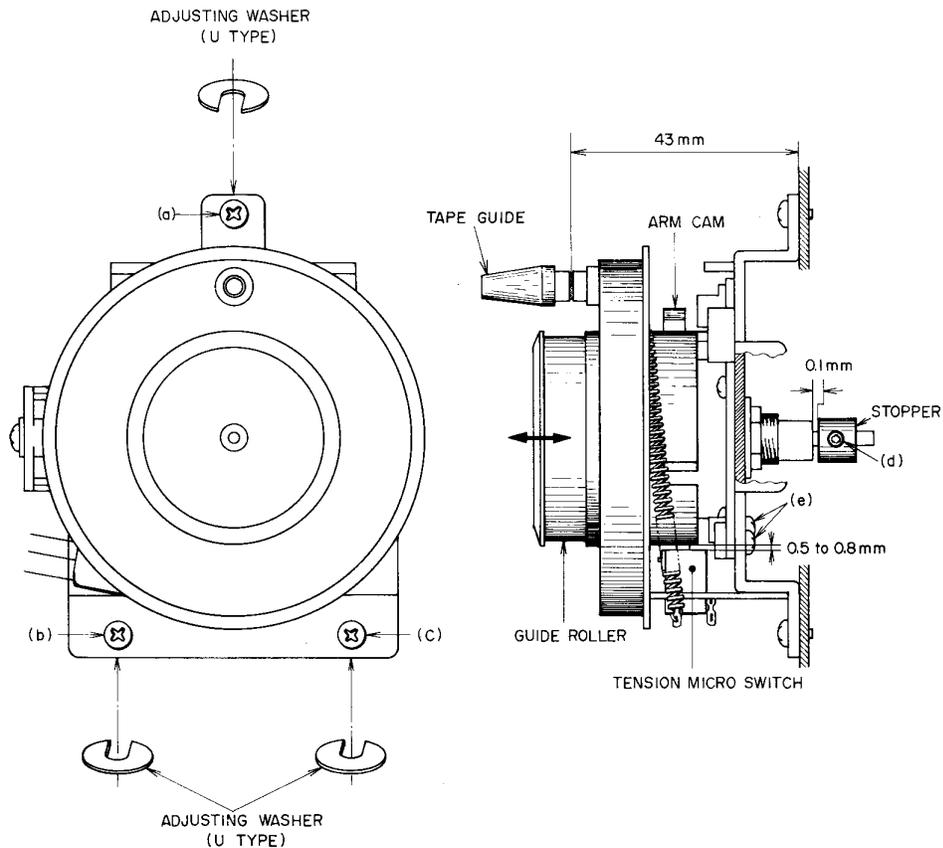

Fig. 8 Roller Block
1. GUIDE ROLLER LOOSE PLAY ADJUSTMENT (Refer to Fig. 8)
Adjust the stopper (roller pulley on the right) screw (d) so that the loose play gap is approximately 0.1 mm when the guide roller is moved as indicated by arrow mark in Fig. 8.
2. TENSION MICRO SWITCH POSITION ADJUSTMENT (Refer to Fig. 8)
3. ROLLER BLOCK HEIGHT ADJUSTMENT (Refer to Fig. 8)